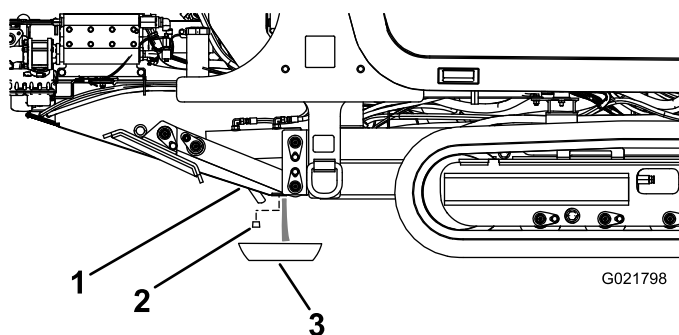

Figure 128
3. Loosen the drain plug until the water and sediment drain out (Figure 128).